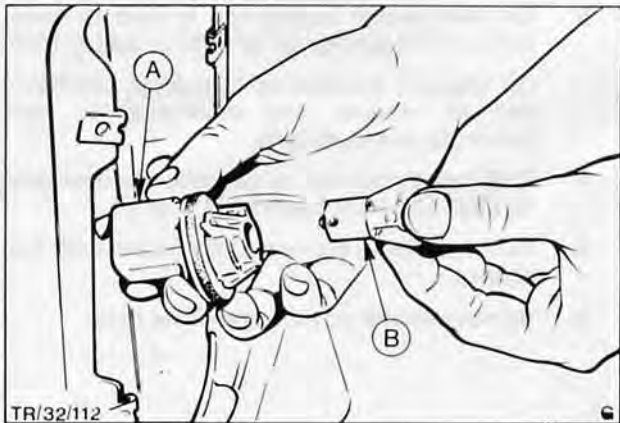

Fig. 12. A – Bulb holder
- 2. Turn bulb anti-clockwise and remove from holder, Fig. 12.